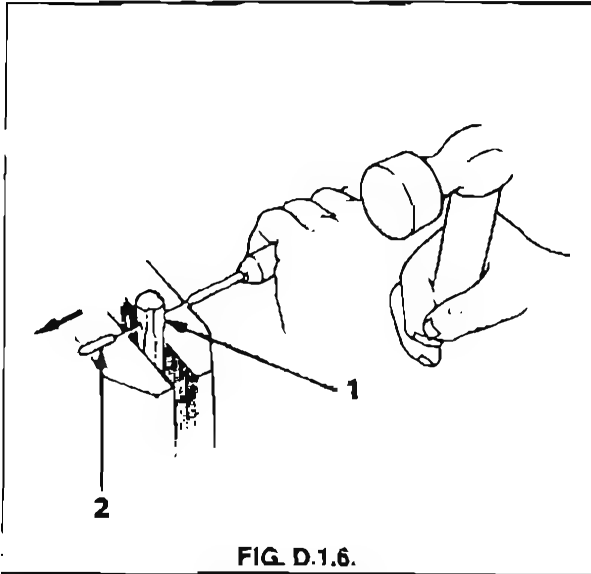

FIG. D.1.6.
6. Grip the firing pin in a vice equipped with soft clamps. Using a suitable punch and a hammer drive out the bush retaining pin. See Fig. D.1.6.